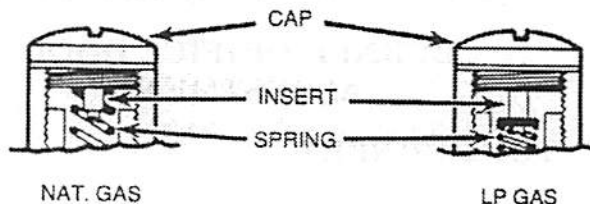

FIGURE 11
3. Remove the cap with the screwdriver slot (fig. 11). Remove the black insert marked "NAT." from the cap. Reverse this insert and carefully push it firmly into the hole in the cap. The marking "LP" will now be showing on the insert. Also, be sure not to disturb the spring in the body of the regulator. Insert the cap in the body of the regulator and tighten.